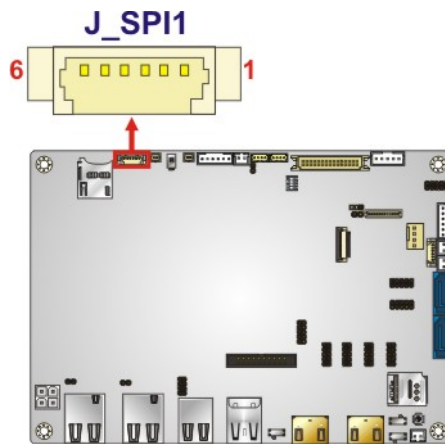

Figure 3-31: SPI Flash Connector Location
- CN Location:** See **Figure 3-31**